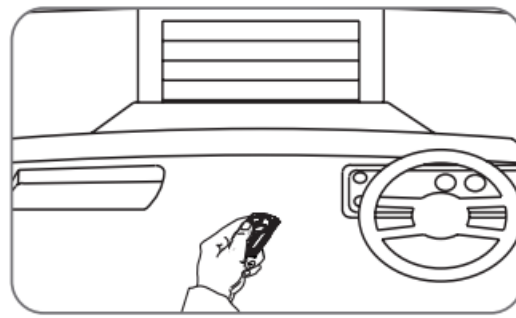

Fig.7.1.1
- **a.** Press the programmed transmitter button until your door begins to move (usually 2 seconds). Make sure you can see the door when you use the transmitter (Fig 7.1.1).